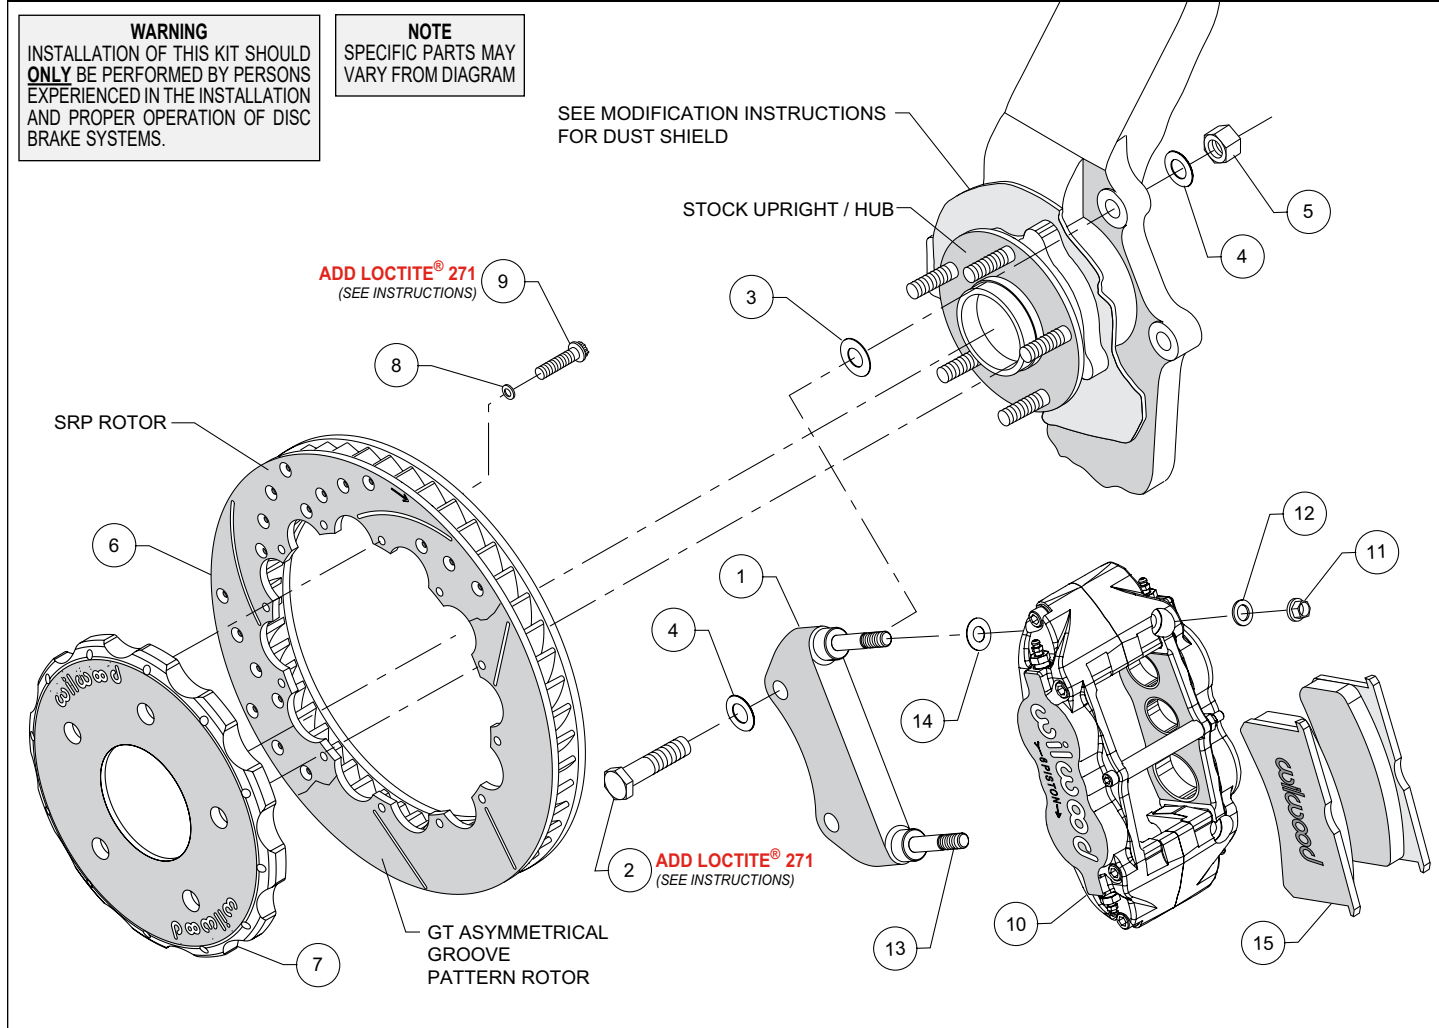

Figure 1. Typical Installation Configuration
- The caliper mounting bracket assembly (1) should be installed first with clean, dry threads on the mounting bolts. Install the bracket from the front side of the spindle by sliding bolt (2) through washer (4) and bracket (1). Place shim washer (3) between the bracket (1) and the spindle (see Figure 1). Slide washer (4) onto bolt (2) from the rear side of the spindle. Secure with nut (5). The bracket must tighten squarely against the side of the spindle body. Inspect for interference from casting irregularities, machining ridges, burrs, etc. Use one thin shim (3) between the bracket (1) and spindle during initial trial fitting.